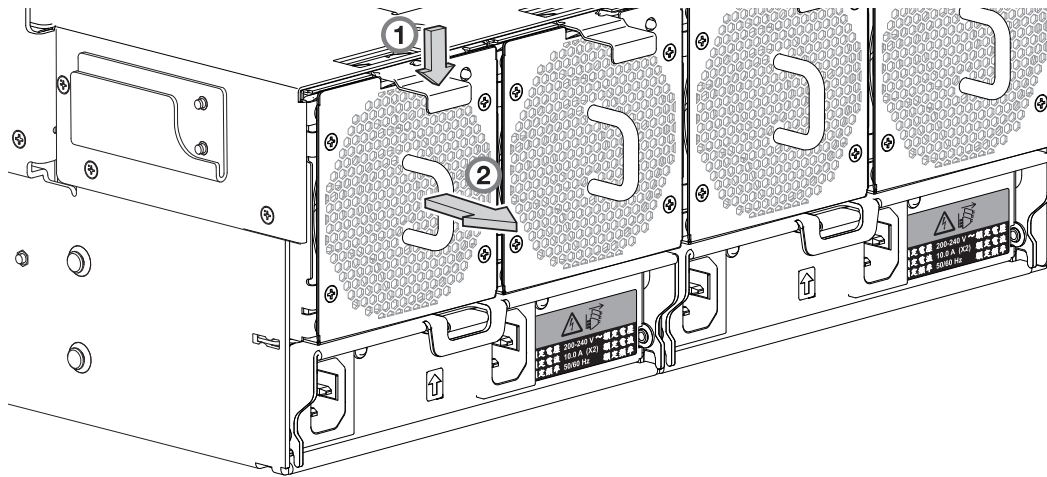
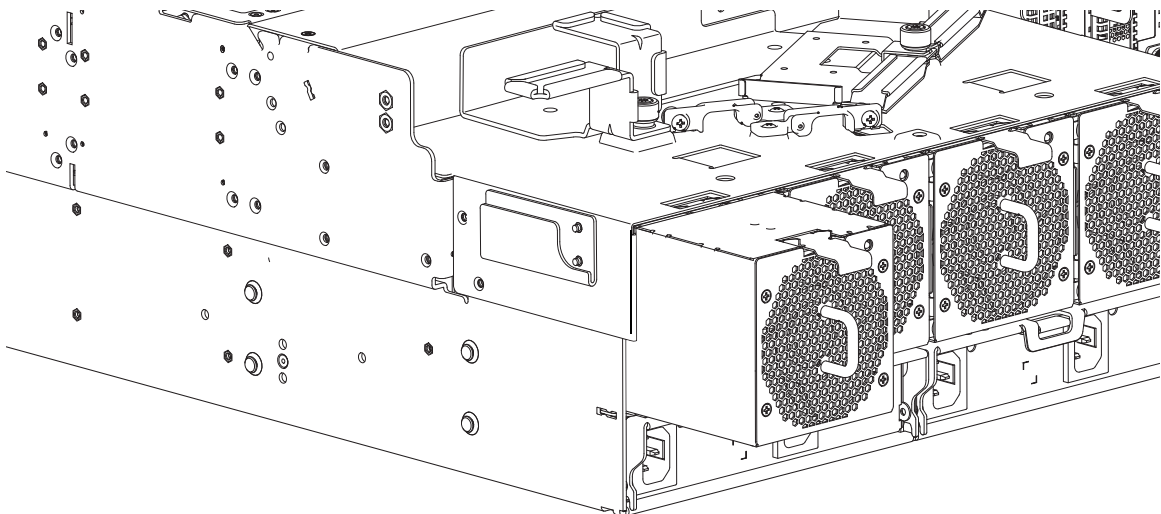

Figure 72 Removing a system fan (1 of 2)
Figure 73 Removing a system fan (2 of 2)
2. Press down on the latch tab to release the fan from its locked position. See detail No.1 in Figure 72 (page 94).
3. Grasp the fan module handle and carefully pull the fan out of its slot. See the detail in Figure 73.
See Figure 72 and Figure 73 when performing this procedure, but ignore the directional arrow—since you will insert the module into the slot—rather than remove it.
① **IMPORTANT:** Handle the system fan carefully, and avoid damaging connectors.
2. Align the system fan module for insertion into its slot, as shown in Figure 73 \(page 94\).